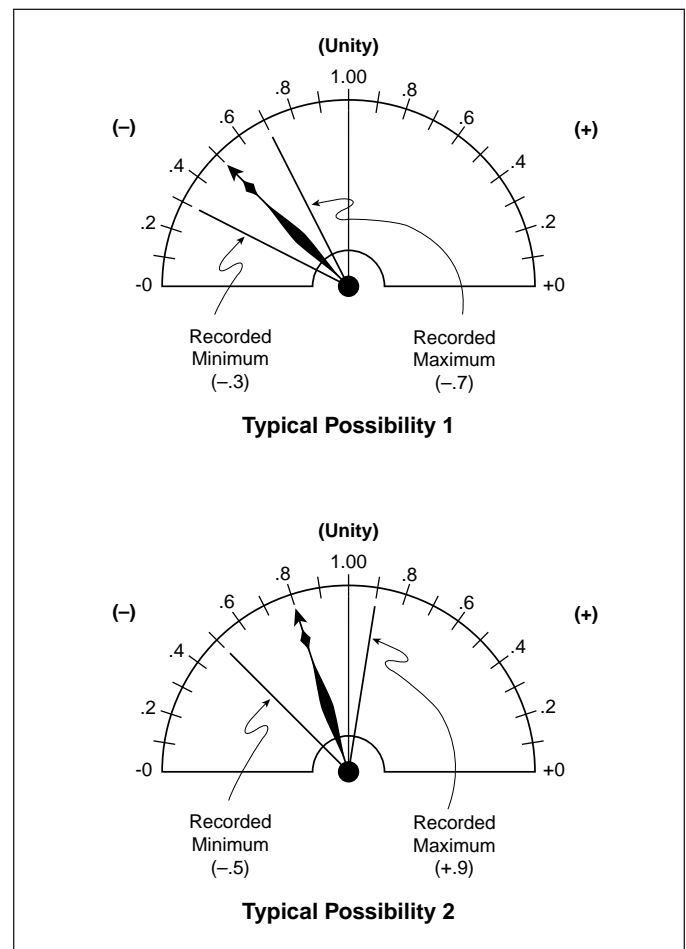
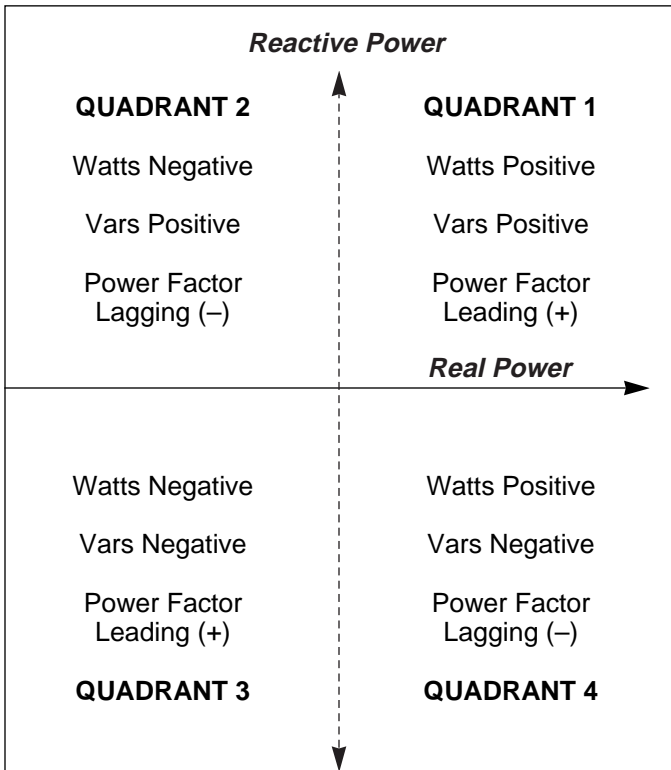

Figure 5-3 Typical Power Factor Minimum/Maximum Possibilities
Figure 5-4 Power Quadrants, Mathematical
As mentioned previously, power engineers typically use the positive sign convention as a standard. The negative sign convention is mathematically correct. The sign convention selected determines whether the leading or lagging power factor is positive or negative in terms of minimum and maximum values. Figure 5-3 illustrates two possibilities. Refer to Figures 5-4 and 5-5 for the specifics associated with both the Mathematical and the Power Engineer’s sign conventions.
- Induction Motor Loads (Figures 5-4 and 5-6): Typically when monitoring induction motor loads the power flow is in Quadrant 4. The watts are positive and the power factor is lagging. By definition, the power factor and vars are negative.
- Power Factor Correction Capacitors (Figure 5-4): When monitoring a load that also has power factor correction capacitors and/or leading power factor synchronous motors so that the new load is capacitive, the power flow is in Quadrant 1.
- Power Distribution (Figures 5-4 and 5-7): Three conditions are typically encountered when monitoring power distribution systems as follows: